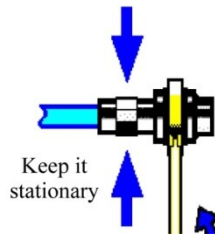

Figure 3.5 Finishing the connection with a torque wrench
Step 3: As shown in Figure 3.5, tighten the connectors with a torque wrench to complete the connection. Note that the torque wrench should not exceed the initial turning point, and an auxiliary wrench can be used to prevent the connector from rotating.